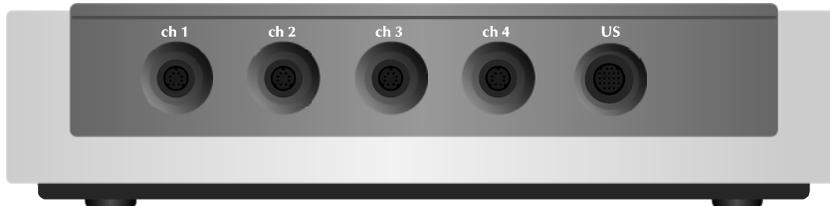

Figure 3.2 – Sonicator Plus 940, Front View –
6. Line up the key at the top applicator cable connector with the slot on the round receptacle located on the front of the Sonicator Plus 940. (See Figure 3.2) The side with the arrow on it is up so you can see it.
8. Plug the electrode cables (ME 2266) into the electrode cable connections as seen in Figure 3.2. Each cable has an arrow on it. Place the arrow facing up and then press into the connector. For combination therapy procedures, plug the electrode cable with the “4” into the electrode connection for Channel 4. Each cable is marked with a number indicating which channel to plug in the cable.